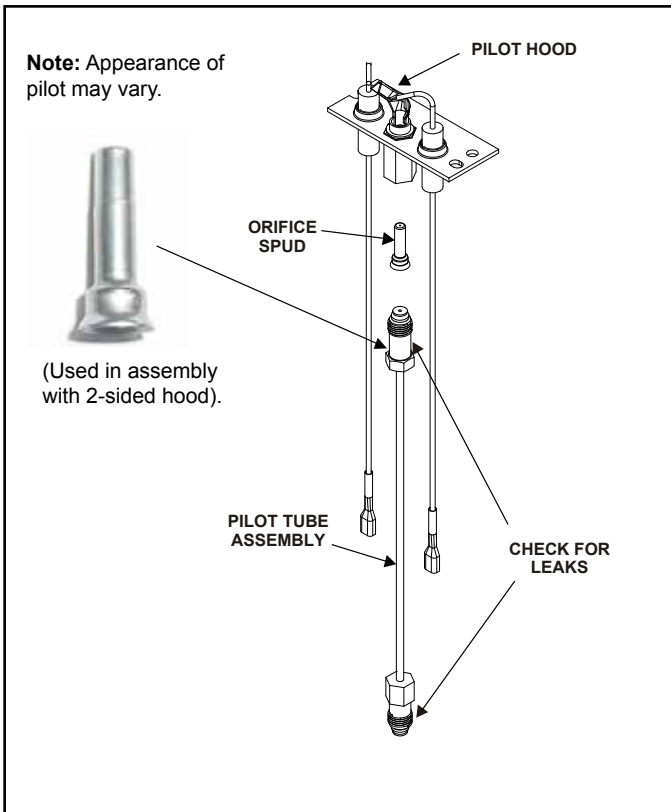

Figure 2
9. Unscrew the pilot tube fitting on the pilot and replace the orifice spud with the one included in the conversion kit. See Figure 2.
15. Use a commercially available, non-corrosive leak check solution to test for leaks around the pilot. Be sure to rinse off all leak check solution following testing. See Figure 2 for leak check points. Extinguish the pilot.